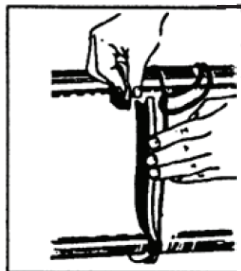

Figure 14
4. Place the V-ring seal around the shaft and stretch it so the ends overlap slightly. Tie the string together to hold the V-ring seal in this position (Figure 14).